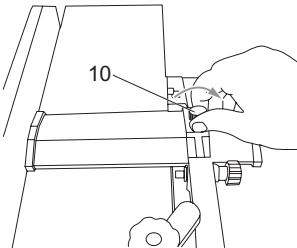

Fig. 25
- > Loosen the blade guard locking knob (10) (turn clockwise). (Fig. 25)